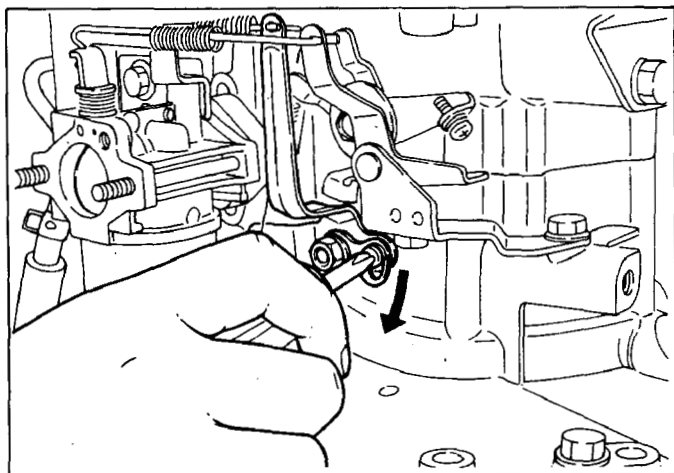

Fig. 16
- d) Push down the adjusting plate downward and tighten the screw. (See Fig. 16.)
7-3 HIGH SPEED ADJUSTMENT (Fig. 16)